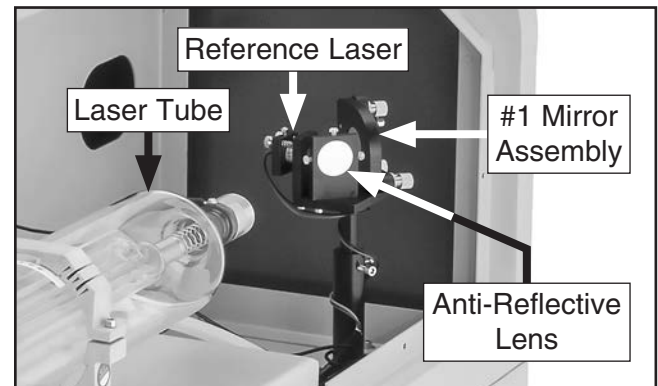

Figure 134. Reference laser components.
3. Locate reference laser (see **Figure 134**).